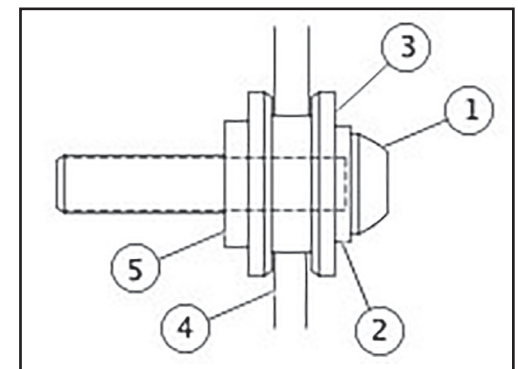

Figure 3. Side Plate and Front Docking Point Fully Engaged
2. See Figure 3. While standing behind the motorcycle, place the front backrest notches into the front docking points. Make sure the notches seat fully into the front docking points.
The front and rear docking points must be fully engaged. See Figures 3 through 6 for correct engagement. If docking points are not fully engaged it could shift position or come loose during operation.